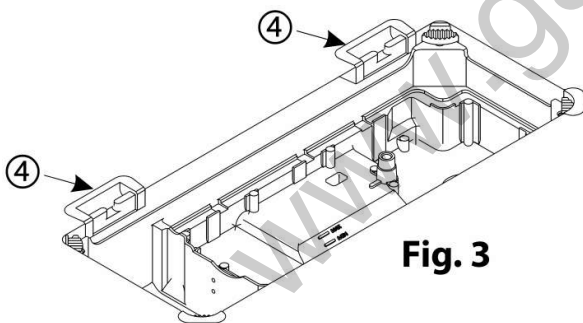

Fig. 3
4. Insert metal hinge (5) to opening in the machine head and fix the whole machine on the table top according to fig. 3.